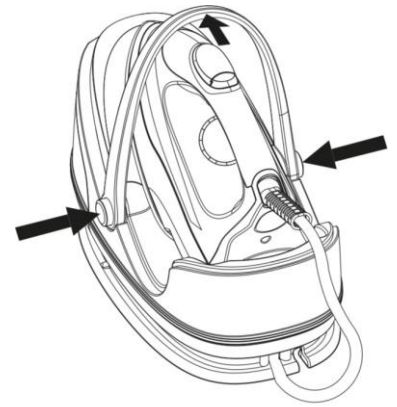

Fig.1
3. Remove the protective foil or sticker or card from the soleplate. (Fig. 1)